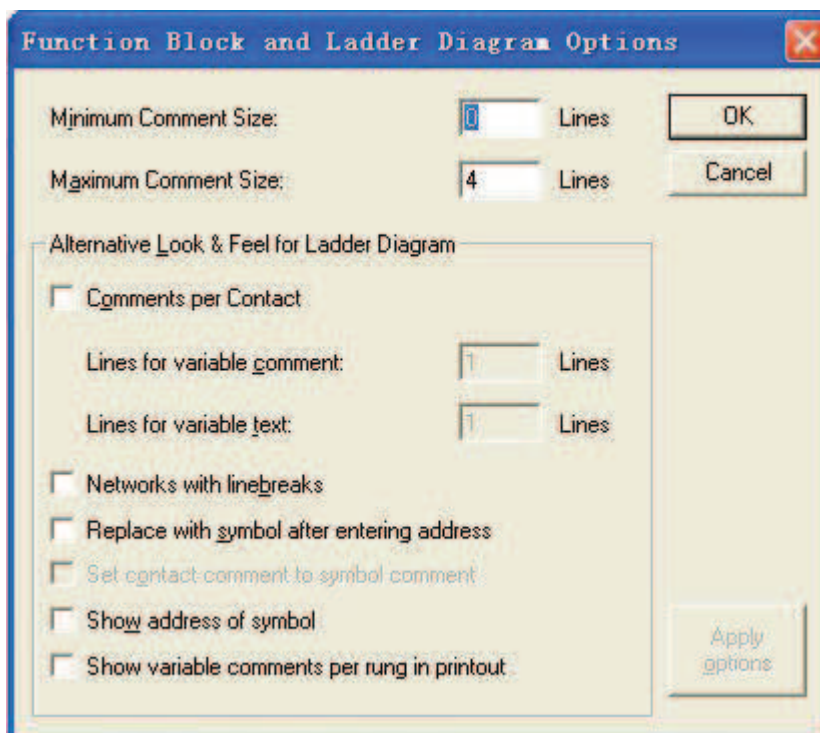

Figure 2-3-14 “Extras” Menu (2)
- Options: In LD, with the command “Options” you open a dialog box “Function Block and Ladder Diagram Options”, shown in figure 2-3-14, in which you can set different options for your LD POU. See section 7.4.9 about options.